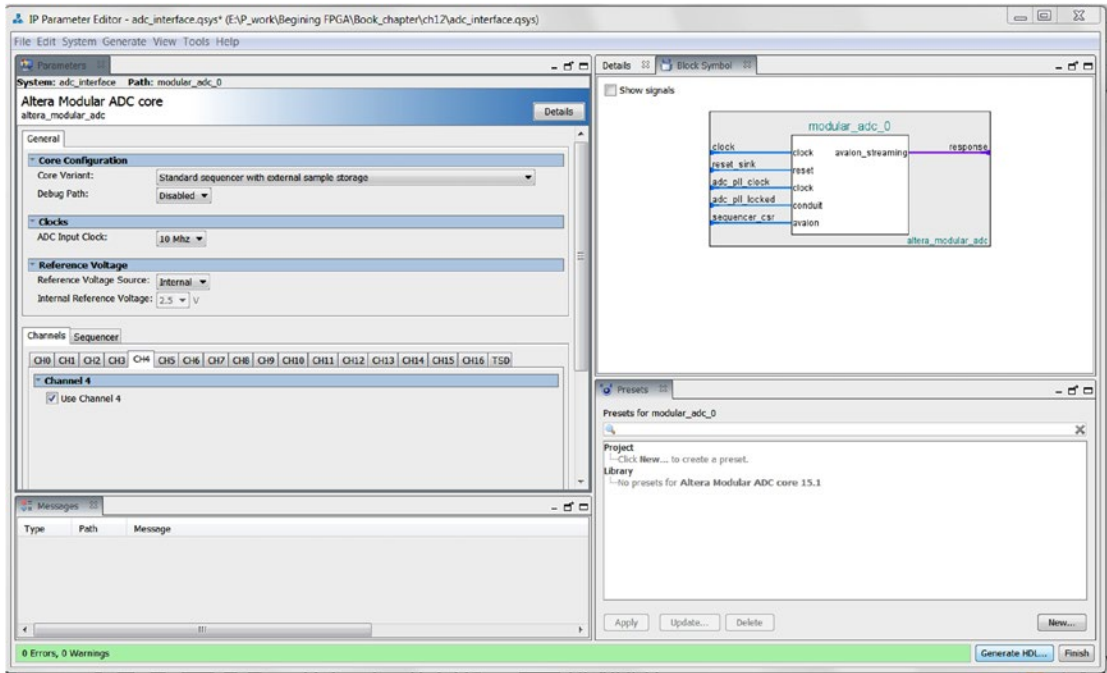

Figure 12-9. Altera Modular ADC core IP parameter editor
Step 4: A new IP Parameter Editor window will appear as Figure 12-9 and we can set our preferred parameters. We want it to constantly send out ADC samples and we want to check and control the IP's status and command registers, so we should select the Core Variant to be **Standard sequencer with external sample storage** on the General tab. For this design we are only interested in channel 4 which is connected to the photo sensor on the BeMicro Max10 board. Check **Use Channel 4** in the Channels tab and CH4 tab. Figure 12-9 shows the setting.